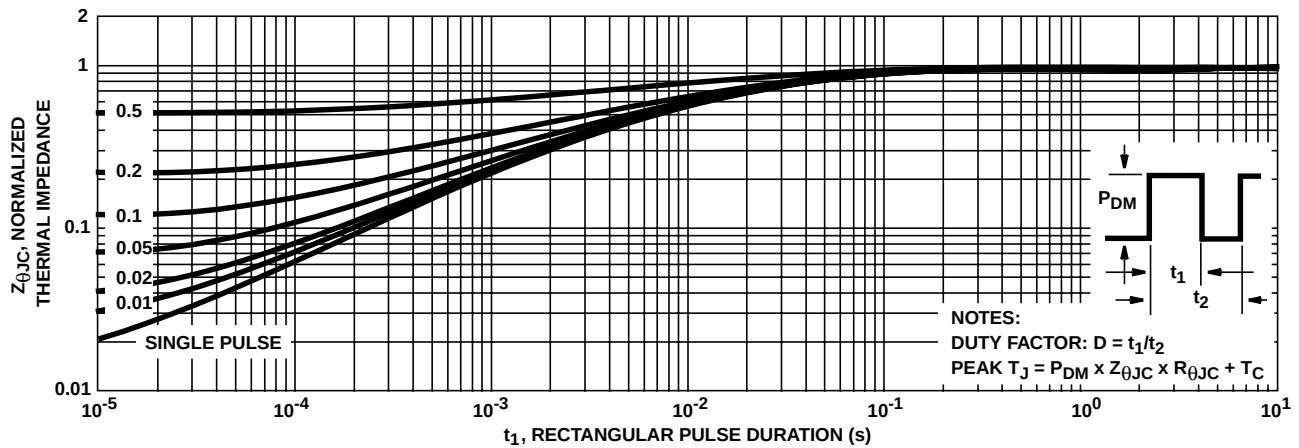

FIGURE 3. NORMALIZED MAXIMUM TRANSIENT THERMAL IMPEDANCE
3. Repetitive Rating: Pulse Width limited by max junction temperature. See Transient Thermal Impedance curve (Figure 3).